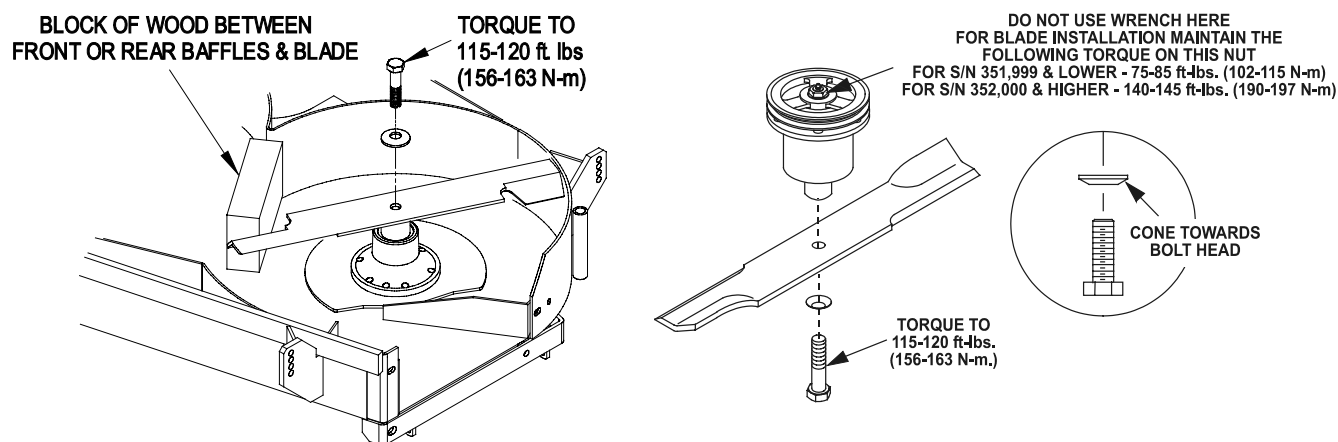

FIGURE 5
- d) Re-install the blades (if they were removed) by placing a block of wood between the front or rear baffles and the blade then torquing the blade bolts to 115-120 ft-lbs. (156-13 N-m). Be sure the spring disc washer cone is installed toward the bolt head (See Figure 5).